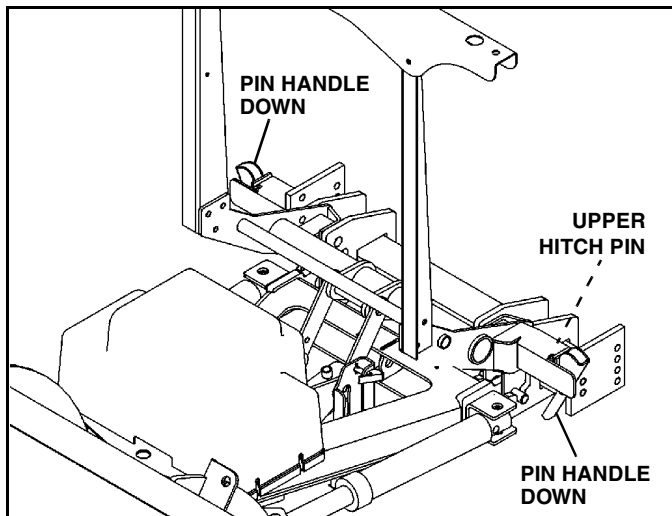

Figure 1-19
4. Put plow into float position by turning down pressure off. Rotate pin handles down to lock pins in place. (See Figure 1-19).